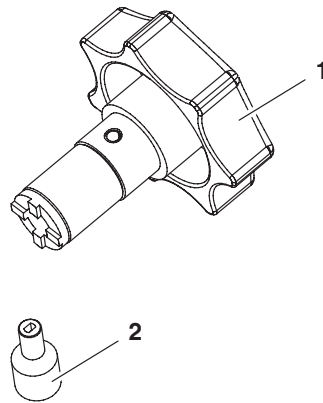

Figure 9 Module rebuild kit tools
- rebuild tool kit (see Figure 9)